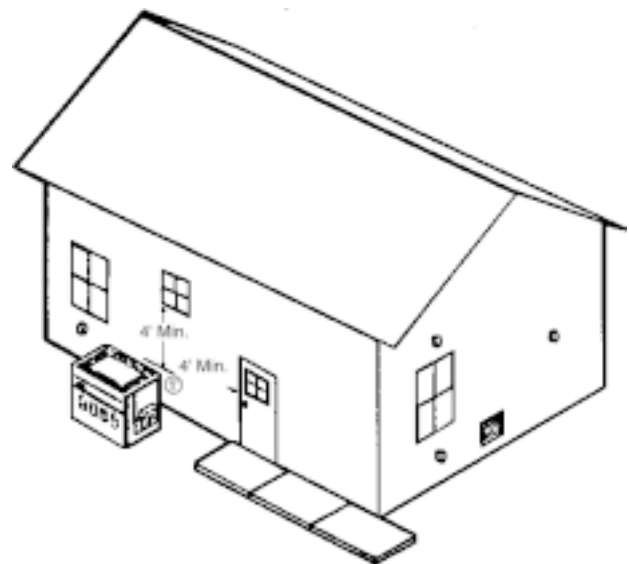

Figure 15.
Overhangs must be such that flue products are not diverted into living spaces. From the point where the flue products leave the heater, that point MUST be a minimum of four (4) feet below, four (4) horizontally from or one (1) foot above any door, window or gravity inlet into the building; see Figure 15.